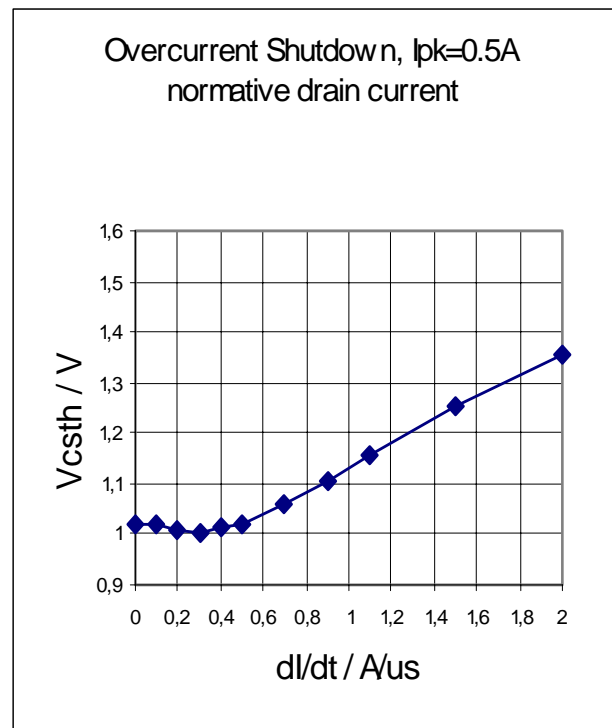

Figure 4
E.g. $I_{pk}=0.5A$ at $f_{switch}=100kHz$. Without propagation delay compensation the current sense threshold is set to $V_{csth}=1V$. A current ramp of $dI/dt=0.4A/\mu s$ and a propagation delay time of $t_{csth-delay}=180ns$ leads to an I_{pk} overshoot of 12%. With the propagation delay compensation the overshoot is only about 2%. A current ramp of $dI/dt=0.1A/\mu s$ leads to an overshoot of 3% in both cases, with and without compensation. For further information see Figure 4 on page 8.